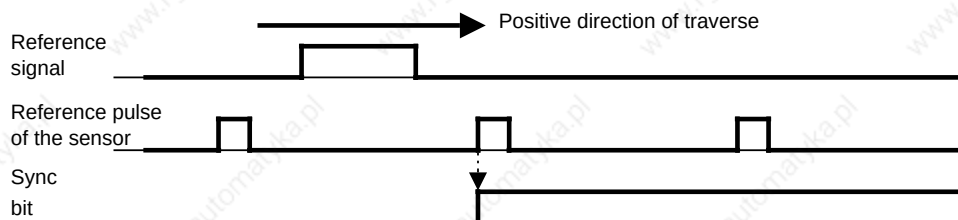

**Figure 16-19. Position of the Reference Point (SYNC Bit=1) after the Reference Signal**
- If the reference signal changes from "1" to "0" before the reference pulse is reached, the module is only synchronized if a positive traversing path is recognized after the falling edge of the reference signal (see figure 16.19).